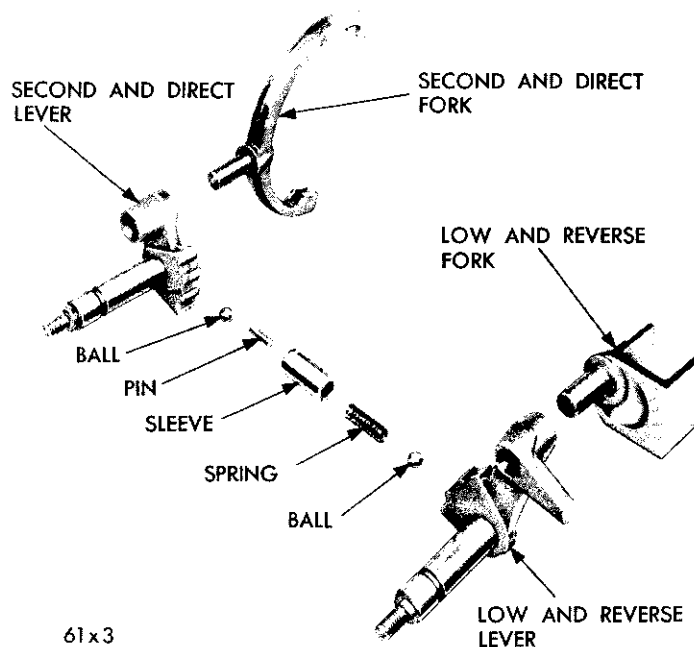

Fig. 8—Gearshift Forks and Shafts
(8) Place the low and reverse fork in the lever shaft, with the offset toward rear of transmission (Fig. 8).